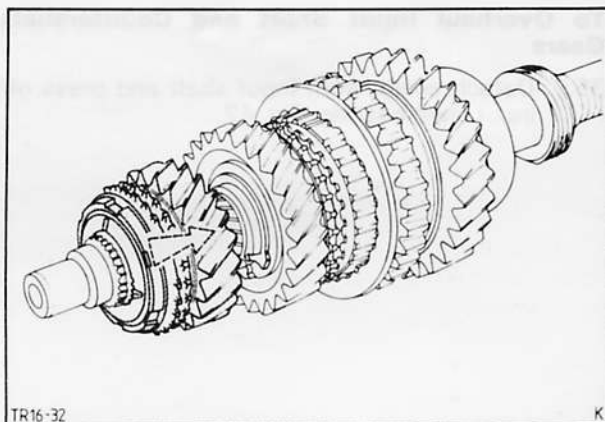

Fig. 44. Slide 3rd gear and synchroniser ring onto mainshaft
32. Slide 3rd gear with synchroniser ring onto the mainshaft, Fig. 44.